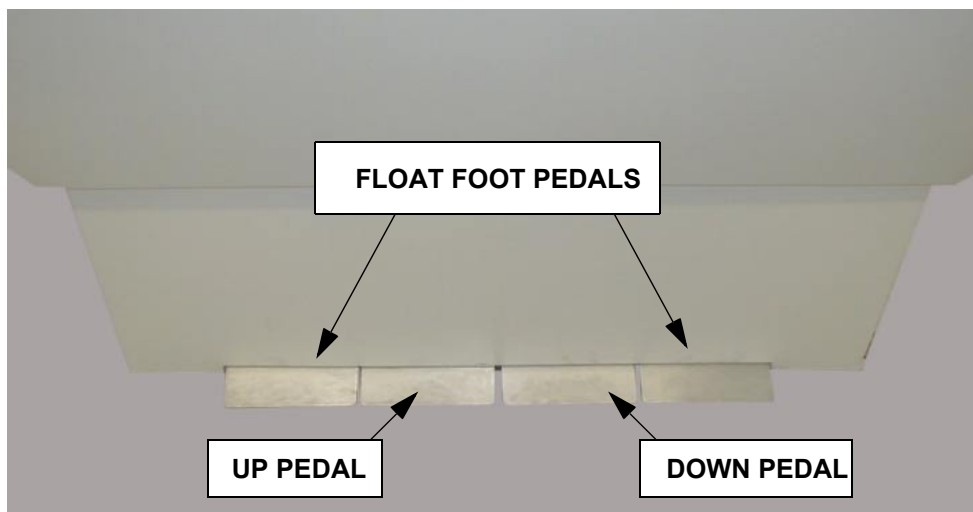

Figure 5. Model QT-750 - Foot Pedal Controls
2. Press the DOWN foot pedal (see Figure 5) to lower the tabletop to the desired height.
1. Press the UP foot pedal (see Figure 5) to raise the tabletop to the desired height.